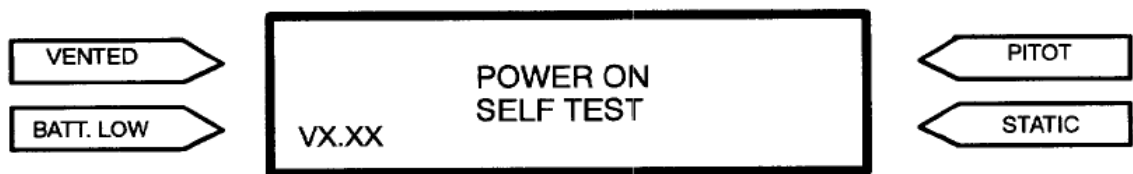
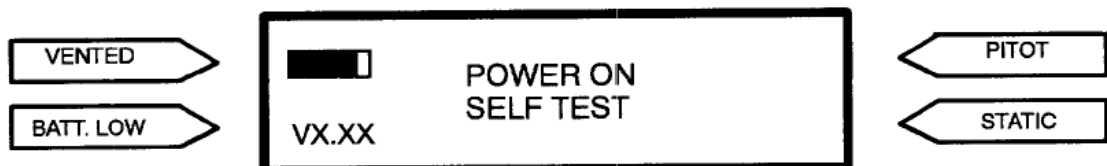

Figure 4 Initial Power On Screen
Figure 5 Battery Status (80% Power Available)
- B. Apply power to the PSLT by pressing the PWR key. The system performs an internal self-diagnostic test routine and the screen displays the version of software installed (*Figure 4*). For a short time during power up, an initial battery status indicator will be displayed (*Figure 5*), providing the Operator with an estimate of percentage battery life available (20% to 100% in 20% steps).